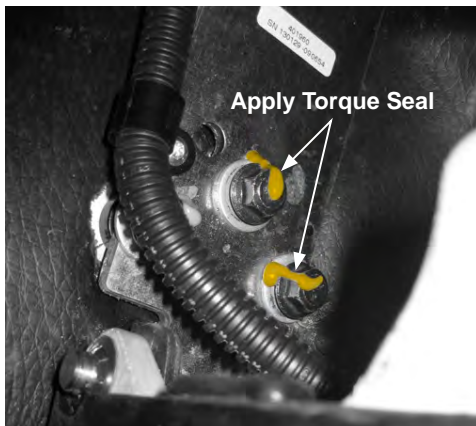

Figure 5-6
10. Apply torque seal to the bolts (see Figure 5-6).